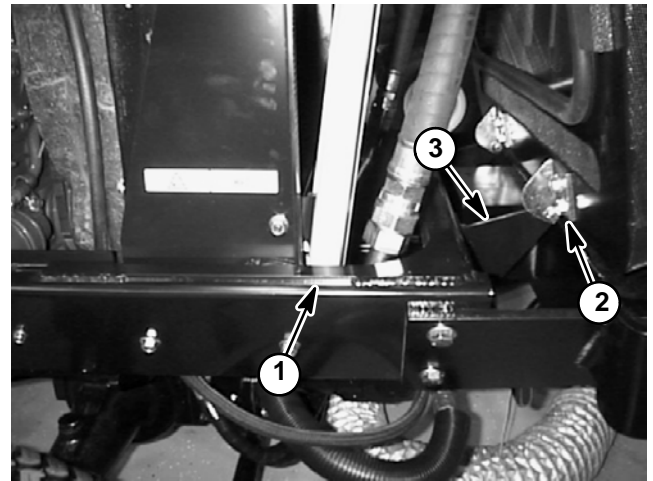

Figure 12
A. Place shim that is 3/8" to 7/16" (9.5 to 11.1 mm) thick on top of frame (both RH and LH sides) near the sides of oil cooler (Figs. 12 and 13).